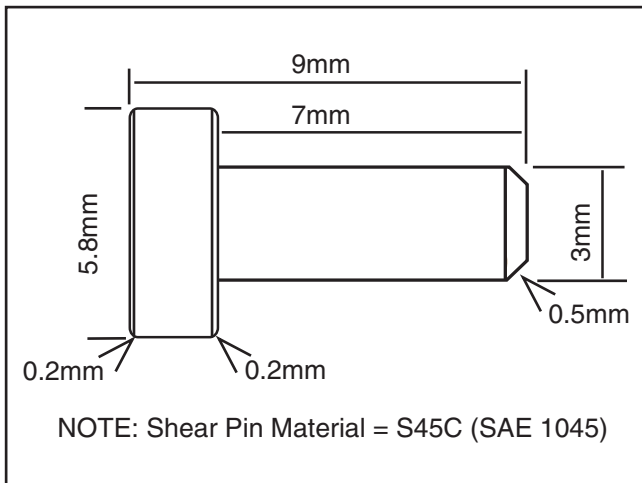

Figure 128. Shear pin specifications.
Contact Grizzly Customer Service at (570) 546-9663 to order a replacement shear pin (Part Number P07400844) or use the specifications in **Figure 128** to fabricate your own.
If you fabricate your own shear pin, make sure to use the material and dimensions specified in **Figure 128**. Otherwise, the shear pin may not provide the intended protection and lathe damage could result.